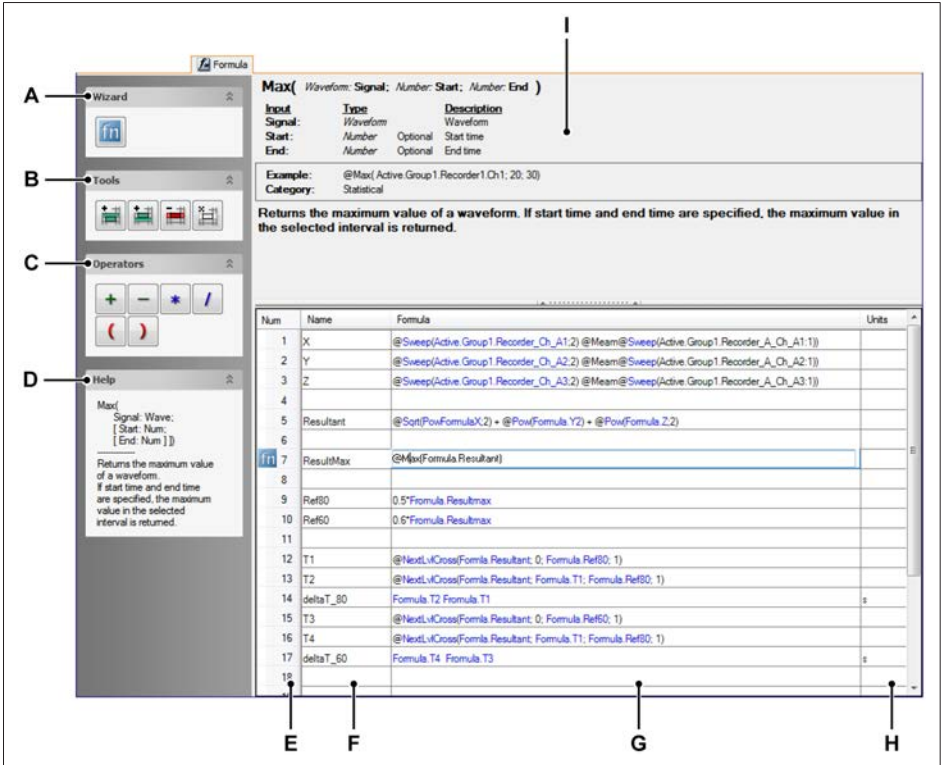

Fig. 1.2 Formula database sheet
- Click on the function creator icon  in the Wizard panel (see Fig. 1.2 on page 12).